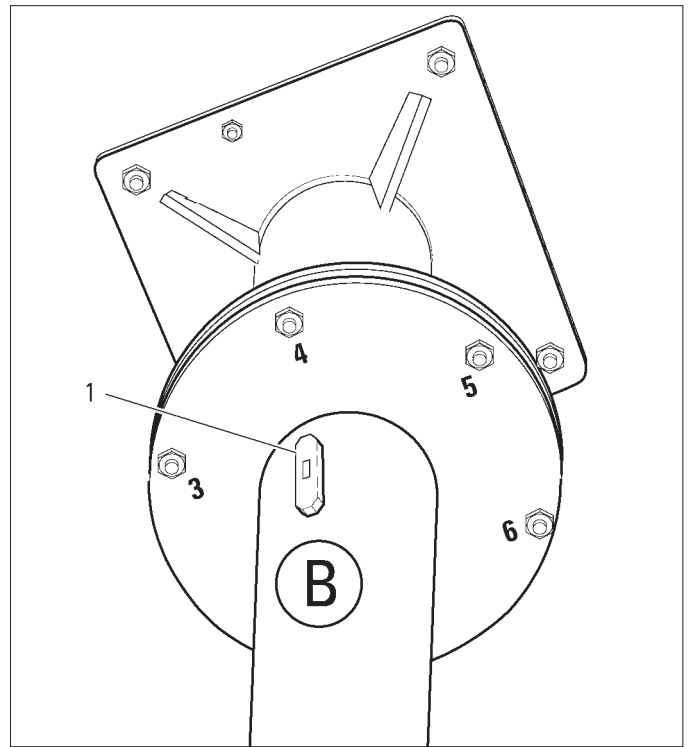

Fig. 2
⇒ Place the precision spirit level (1) vertically on Side **B** below Screw **4** at the upper segment of the Leica Mini Mount (Fig. 2).